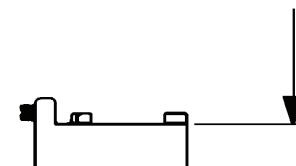

Figure 4
- 3 Cut mullion body to length as shown in Figure 4.